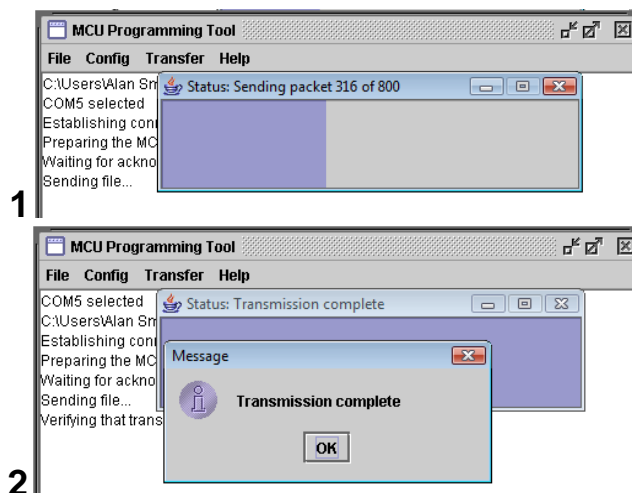

Figure 11
2. After selecting the file, click **Transfer** → **Send file...**. This attempts to send the file through the selected COM port to the base unit displaying the screens shown in Figure 11, one at a time. Notice that the information on the screen work space updates. When the Message pop-up appears, click the **OK** button.